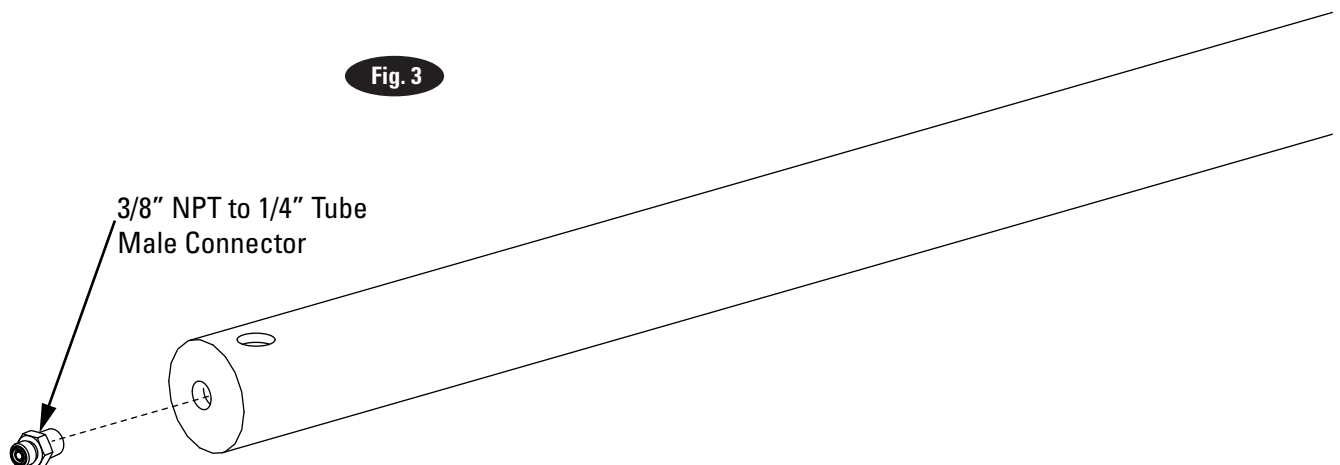

Fig. 3
**3. Male Connector (Extended Height):** Attach male connectors to tops of cylinders before installing the extended height column extensions see Fig. 3.